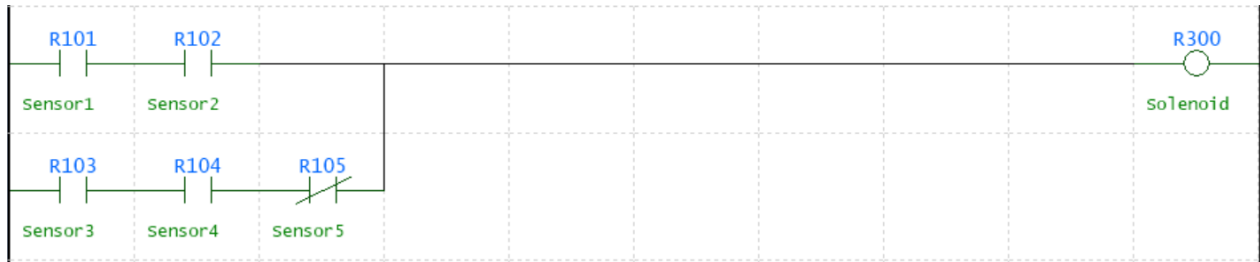

Figure 2(b)
- (b) Using KV-N14DT Keyence PLC, produce a KV-script programming for ladder logic diagram shown in Figure 2(b).
- (c) By referring to the ladder logic diagram shown in Figure 2(c) and answer the following questions: